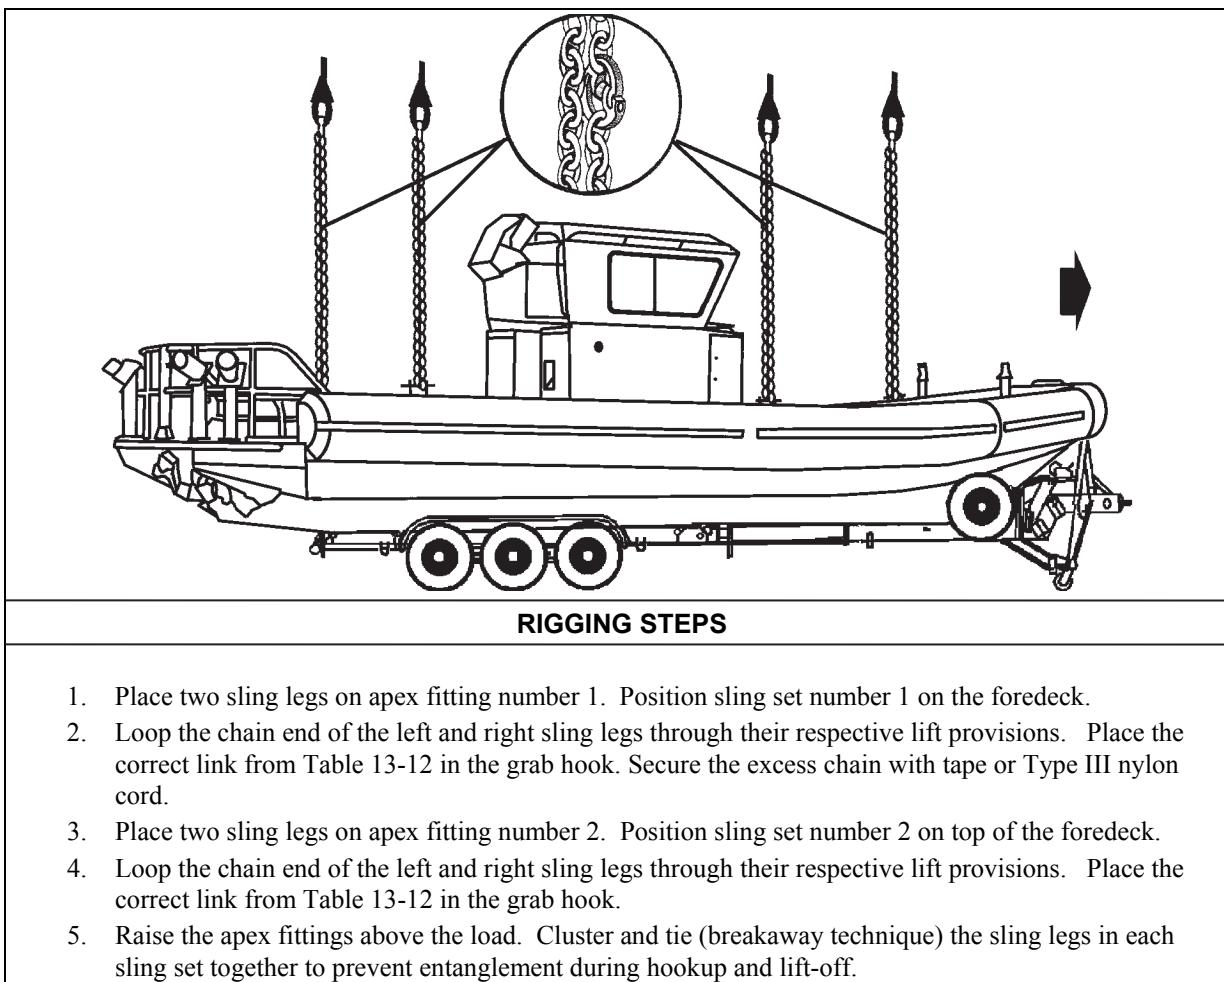

Figure 13-12. Small Unit Riverine Craft with Trailer
- **Rigging.** Rig the load according to the steps in Figure 13-12.